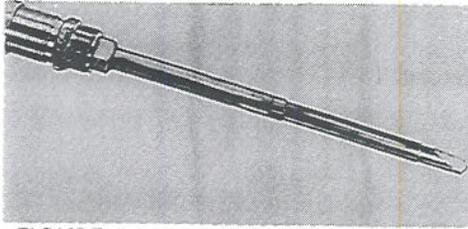

FIGURE 11
3. Coat drill or shell cutter and pilot drill thoroughly with MUELLER Cutting Grease. **Figure 11.**